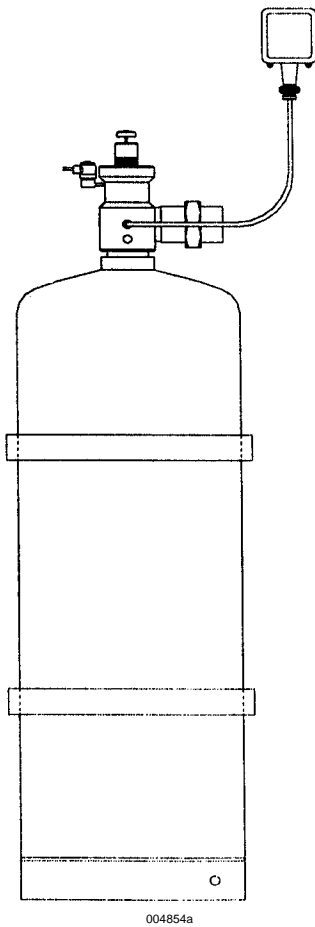

Figure 44 - Discharge Pressure Switch Installation
- On single tank installations, the pressure switch should be located close to the valve assembly and connected with a pilot hose from the pressure port outlet on the valve to the connector on the pressure switch (see Figure 44).